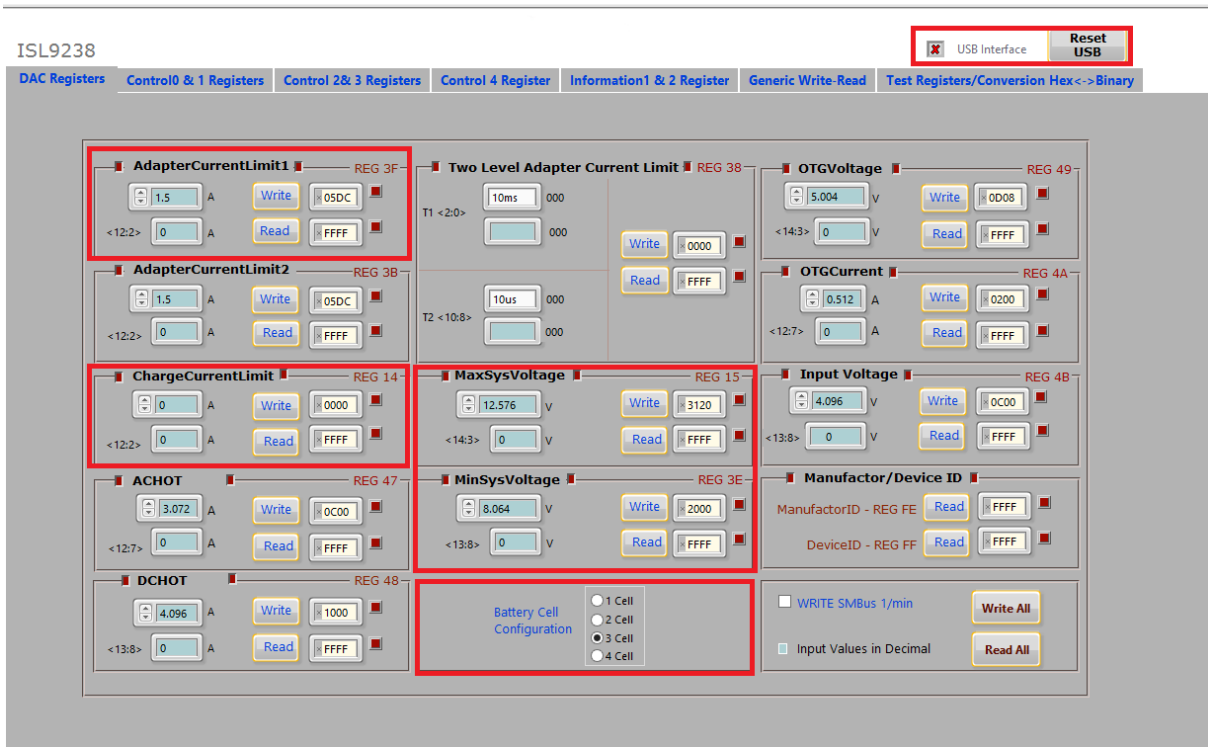

FIGURE 2. GUI SNAPSHOT
The number of battery cell and adapter current limit default values can be configured with a standard 1% 0603 resistor (R_{23}) from the PROG pin to GND. The "PROG PIN PROGRAMMING OPTIONS" table in the ISL9238 datasheet shows the programming options. After the default number of cells in series is set, the default values for MaxSystemVoltage and MinSystemVoltage are set accordingly. These values can also be changed through the SMBus control registers in the Renesas GUI, shown in Figure 2 on page 3.
4. Turn on the power supply; LED 3 turns off. Turn on the battery emulator and open the ISL9238 GUI (shown in Figure 2 on page 3).